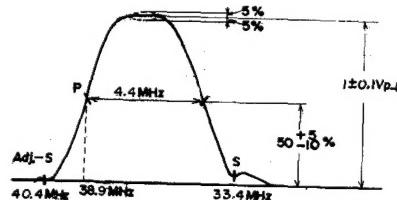

Figure 10
- Adjust the transformers T101 (in VHF Tuner) and T201 to obtain the waveform shown in figure 10.
- If not obtain the waveform shown in figure 10, readjust the coils (L205 and L206) and the transformers (T101 and T201).